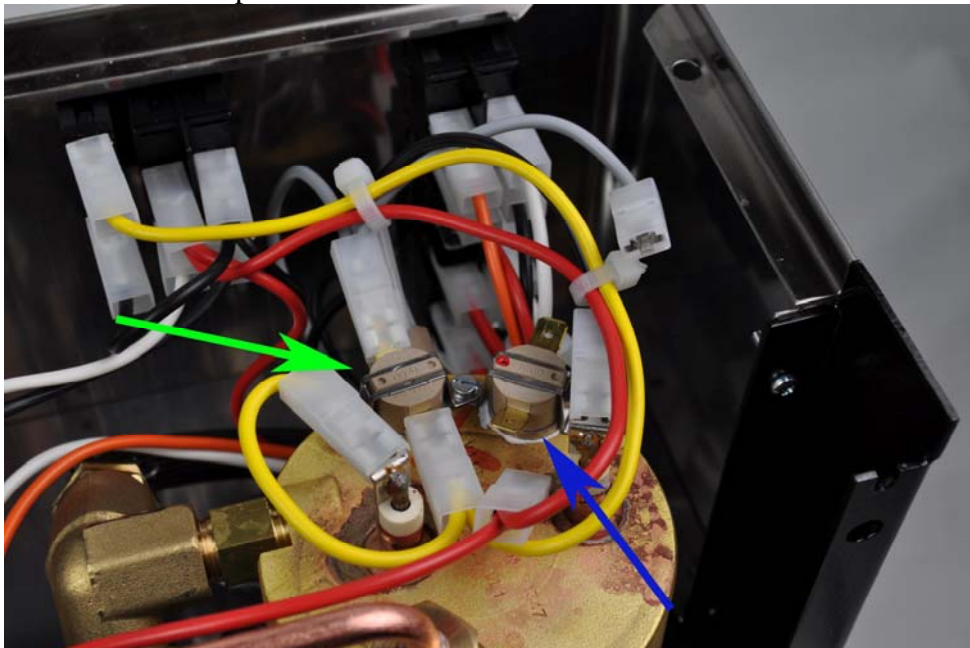

Figure 18. Brew control thermostat and steam control thermostat
- 2) There are two thermostats on top of the boiler as shown in Figure 18. The blue arrow points to the brew control thermostat (it has a red dot on the top). The two cables on it have been removed. One is the gray cable on top and other is the red cable below. These cables are going to be connected to the red cables from the SSR output. The green arrow points to the steam control thermostat. The cables on it need to be removed and connected to the black cables from the SSR output.
- 1) Install the RTD sensor. The RTD sensor should sit in the same place as the original brew thermostat was located (indicated by the blue arrow in Fig 18). Remove the brew thermostat by loose the screws that hold it. Insert the RTD sensor to the same bracket that was used to hold the brew thermostat. Sometimes, it is convenient to work on the screws by temporarily removing the cable connector on the left side terminal of the heater (green arrow on Figure 22a). Please note that if the machine is old and as a result, the plastic protection guard of the heater connector is brittle, it might break off and leave some unprotected spots. You need to use a small to medium sized flat head screw driver to remove the screw. Be very careful to not let it drop into the gap below. If it drops to the top of the grouphead, it could be a lot of trouble to take it out. A magnetized screw driver will help. Apply a small amount of silicone heat transfer compound to the bottom of the RTD sensor before installation. This will ensure a fast and accurate temperature measurement. Fig 22a shows the RTD has been installed (marked with red arrow).